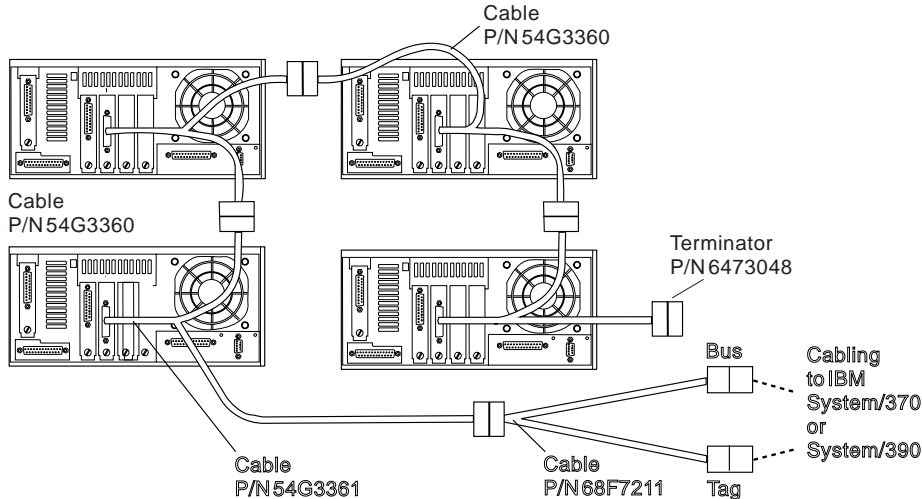

Figure 1-38. BMCA Cabling to Multiple Processor Nodes
- Refer to Figure 1-38 on page 1-355, while isolating fault.